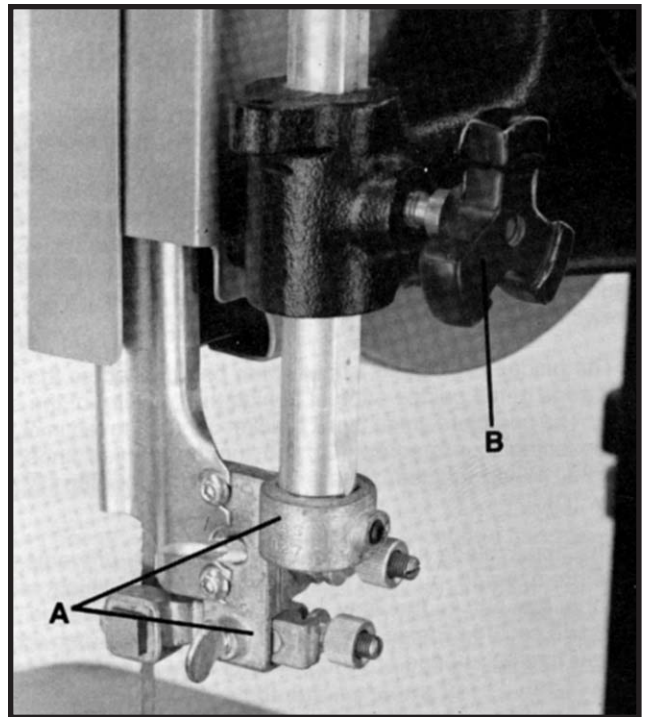

Fig. 21
The upper blade guide assembly (A) Fig. 21, should always be set as close as possible to the top surface of the material being cut by loosening lock knob (B) and moving the guide assembly (A) to the desired position.